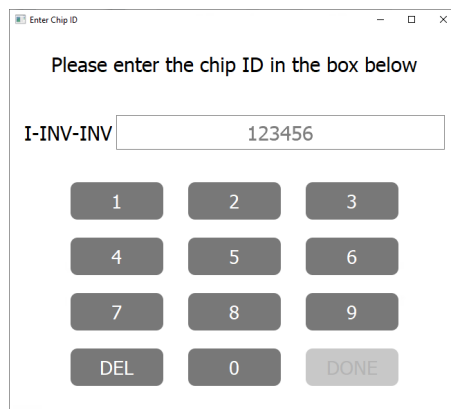

Figure 313 - Chip ID Popup after clicking "INVALID" text
2. Press the "INVALID" text to enter in the chip number manually. See Figure 313.